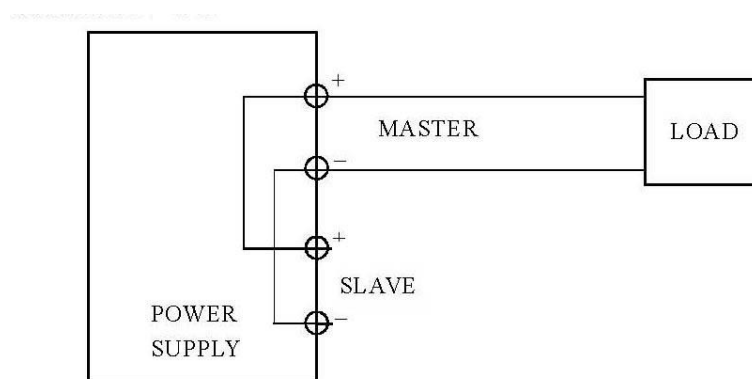

Fig 6.1 Parallel connected power supply
When both Tracking buttons are pressed in (14) (15), the 2 power supplies are parallel connected. The connections between the 2 power supplies are internal as shown in Fig 6-1. The Master's Voltage control varies both supplies simultaneously in a one to one tracking relationship. When the master and slave are in parallel , the voltage is the same for both supplies as read on the Master's voltmeter and the current supplied to the load is double of what is displayed on the Master or Slave Ammeter. Example: if the Master and slave is set to 10 volts and each ammeter is reading 4 amps, the voltage to the load is 10V and the current is 8 amps